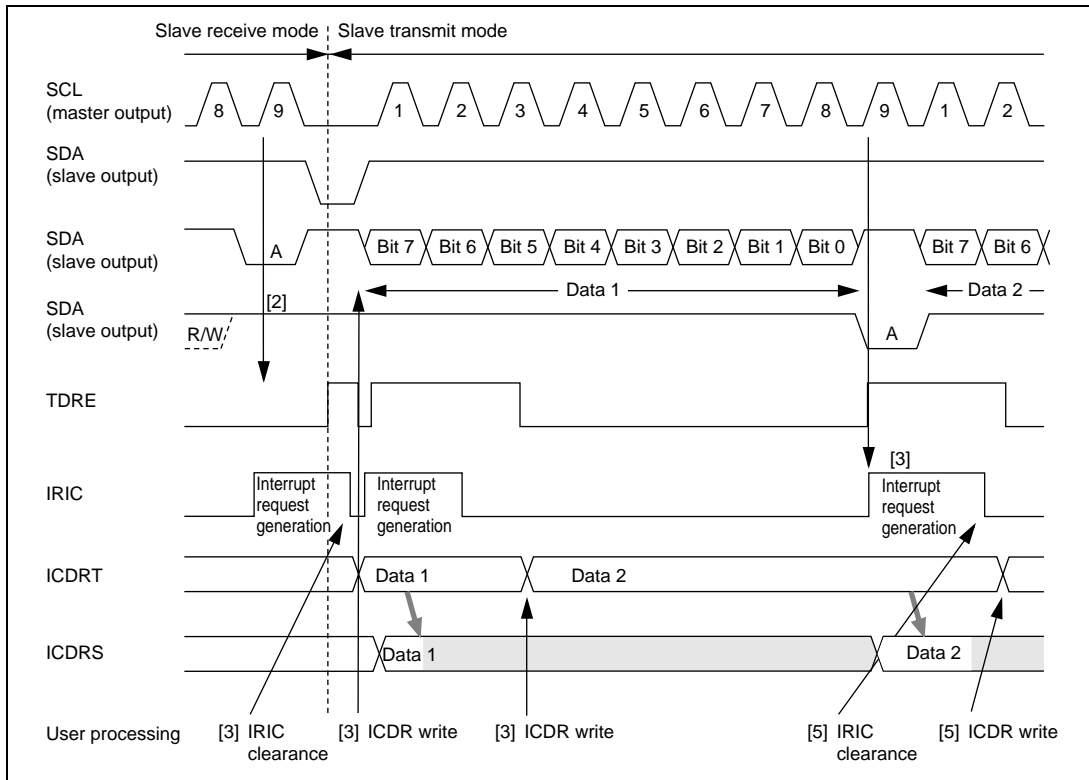

Figure 16.11 Example of Slave Transmit Mode Operation Timing (MLS = 0)
- [3] After clearing the IRIC flag to 0, write data to ICDR. The TDRE internal flag is cleared to 0. The written data is transferred to ICDRS, and the TDRE internal flag and the IRIC and IRTR flags are set to 1 again. After clearing the IRIC flag to 0, write the next data to ICDR. The slave device sequentially sends the data written into ICDR in accordance with the clock output by the master device at the timing shown in figure 16.11.